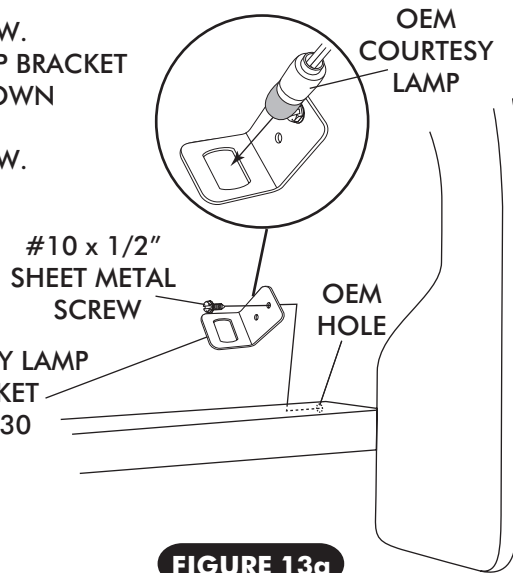

FIGURE 13a
- ☐ USING OEM HOLE, SECURE PASSENGER SIDE COURTESY LAMP BRACKET UNDER DASH USING #10 x 1/2" SHEET METAL SCREW AS SHOWN BELOW IN FIGURE 13a.